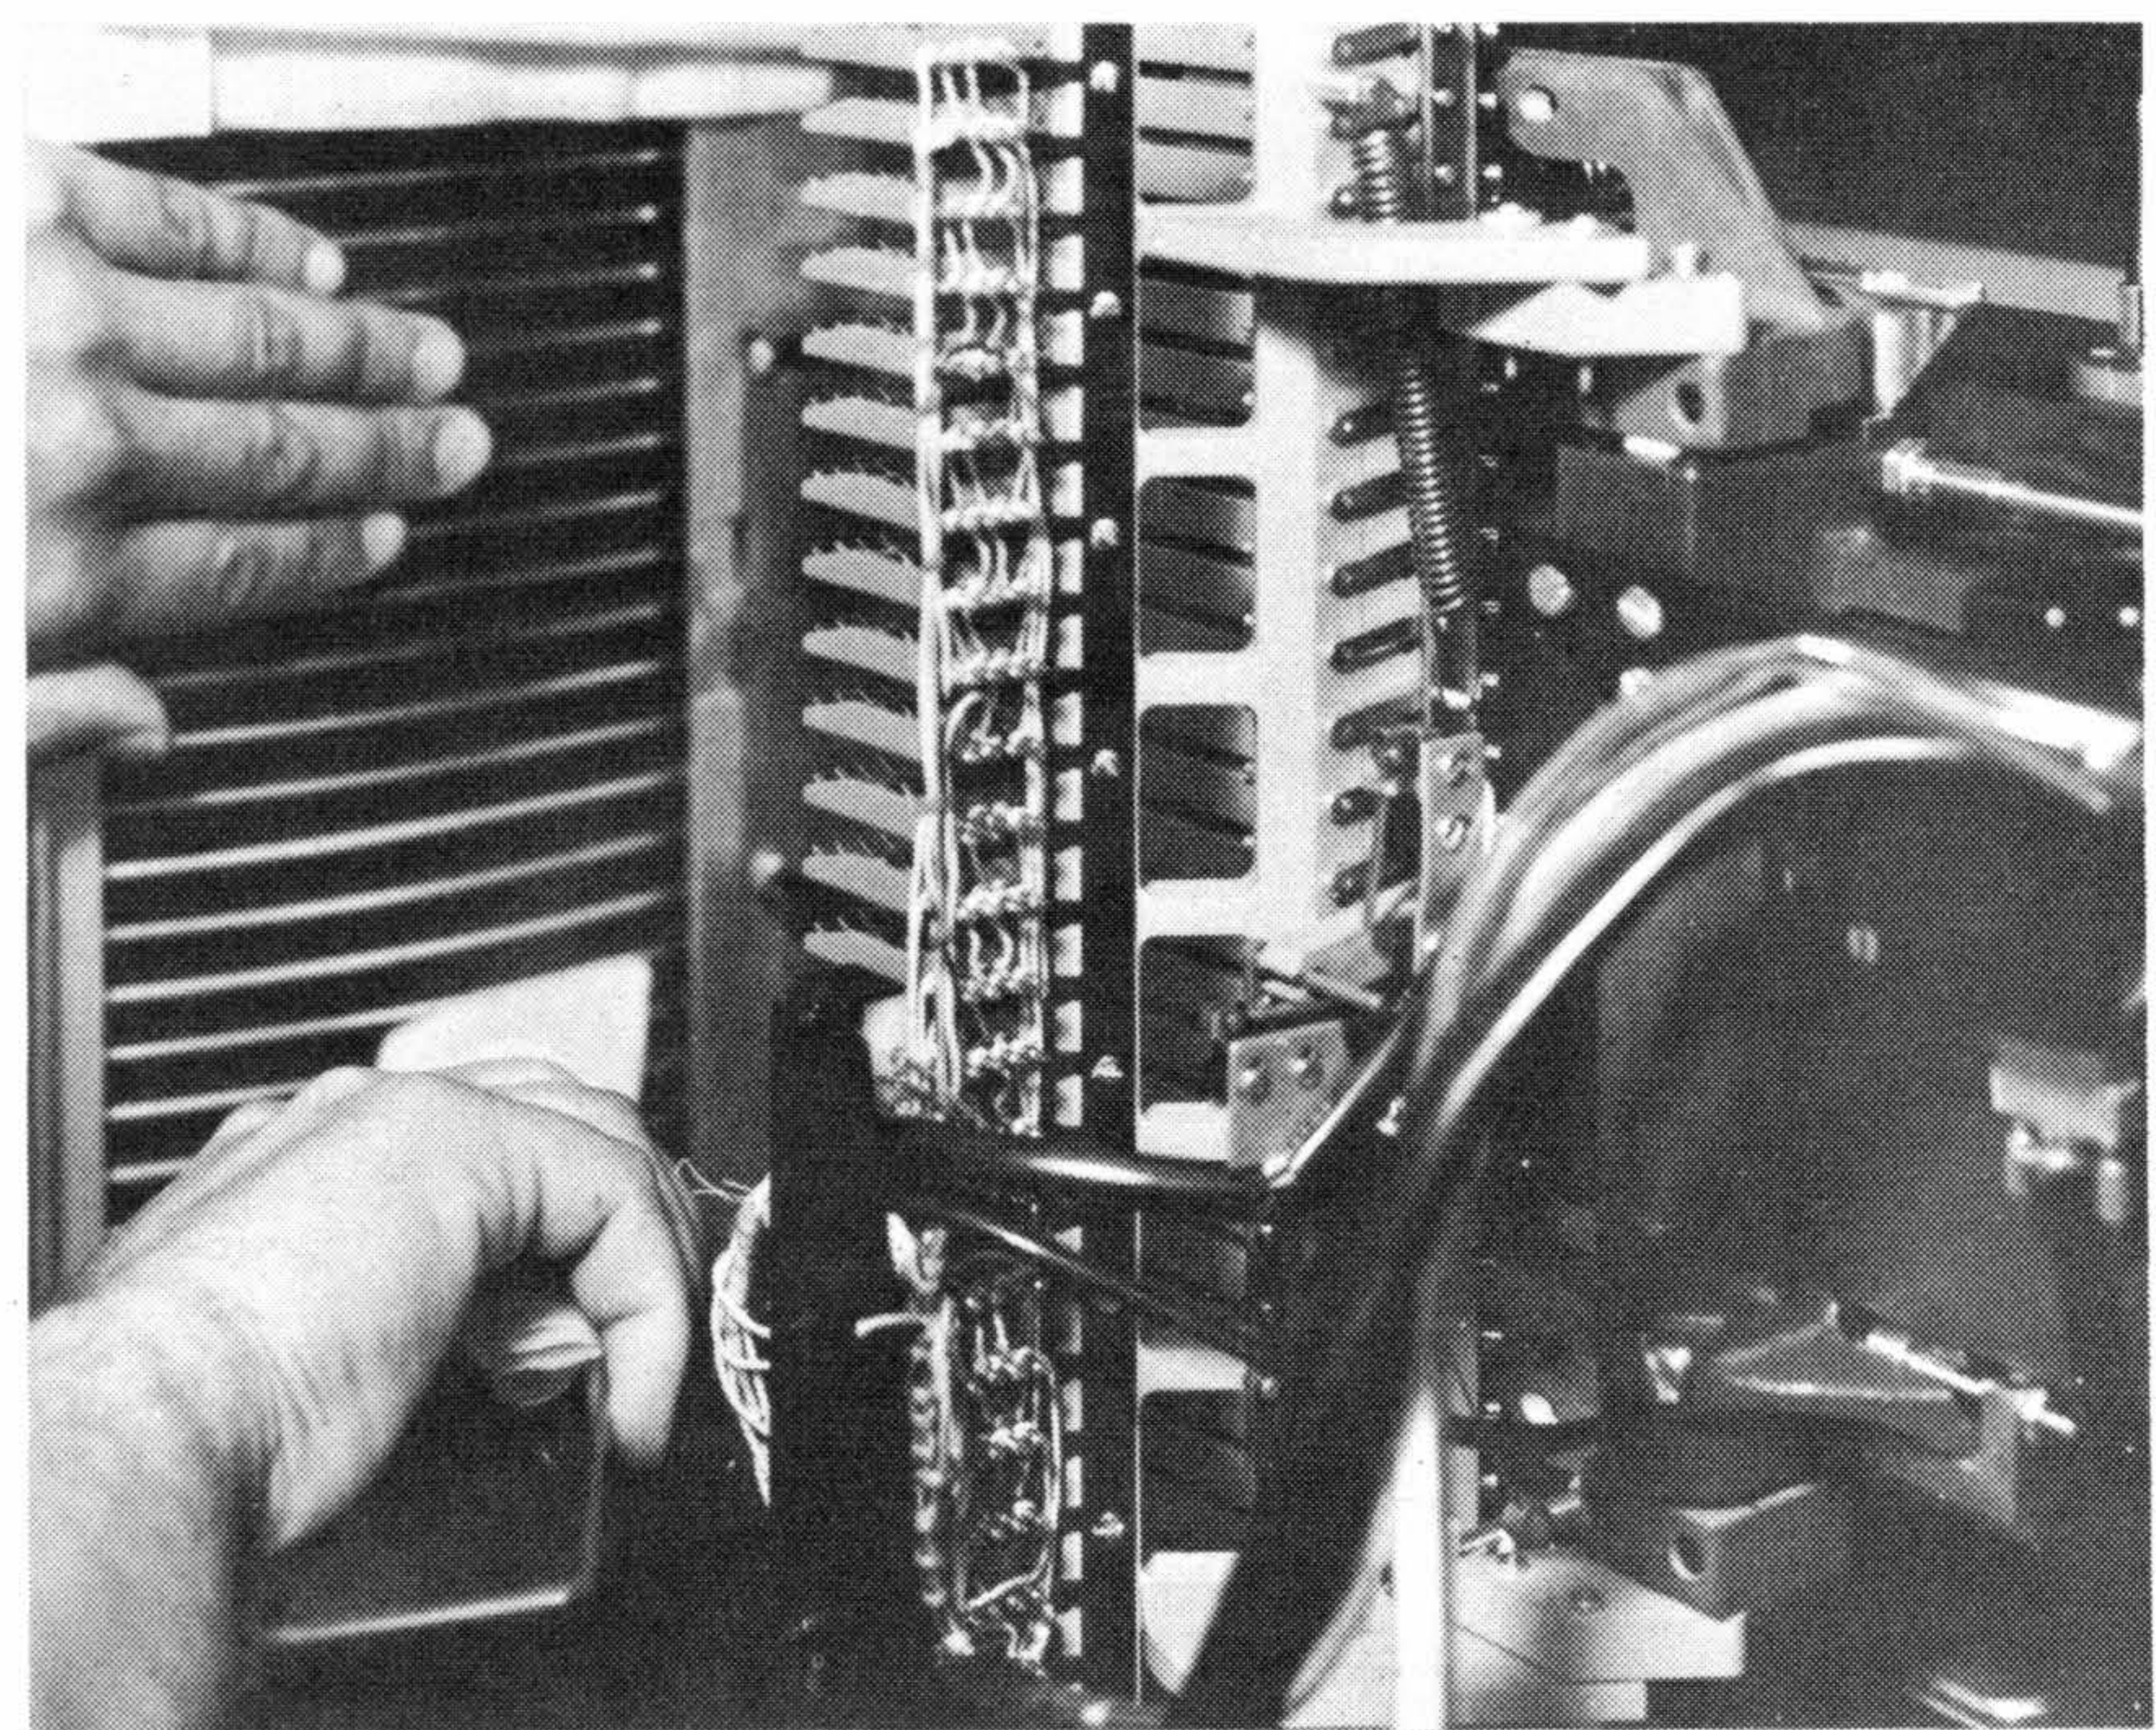

Figure 2-5. Cleaning Disks
3. Place paddle between disks and rotate the disk array manually (Figure 2-5). If the surfaces